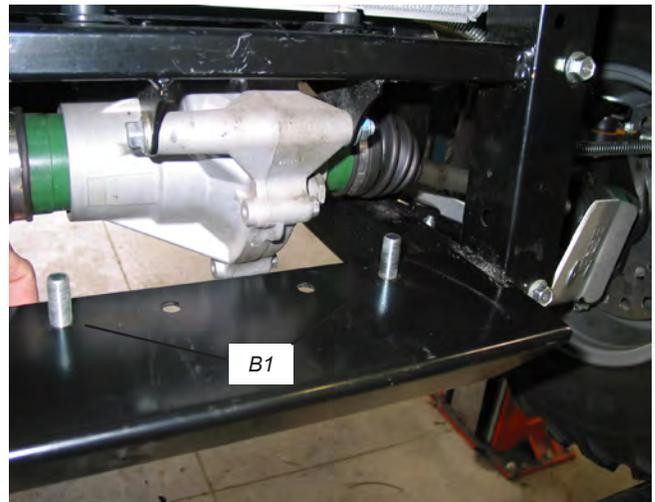

Figure 2
3. Thread fasteners (B1) in from the underside of the vehicle frame. See Figure 2. Tighten fasteners to torque specification listed.